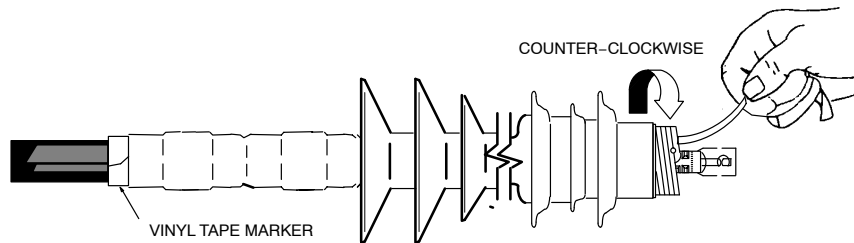

FIGURE 5
8. Position the terminator body on the cable. The base of the terminator body (not the core) must be butted up to the edge of the vinyl marker tape. Remove the core while unwinding in a counter-clockwise direction. Once the terminator body has made contact over the mastic seal area, there is no need to continue supporting the assembly. **DO NOT** push or pull the terminator while unwinding the core. See Figure 5.